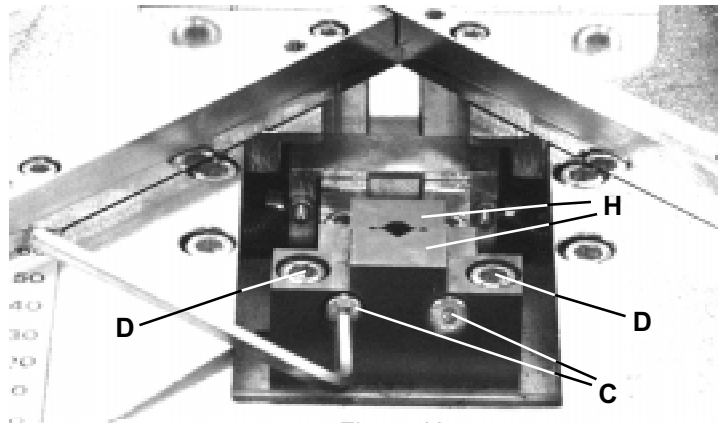

Figure 13
2. If glue accumulates on the table surface or **Hammer Block (H)**, Figure 13, wipe it off before it dries, otherwise, it will have to be scraped off or removed with the solvent recommended by the glue manufacturer. Be sure glue does not dry on the **Upper Clamp Pads** because it will damage the top of a frame.
- c. Remove two screws (**C**). **DO NOT LOOSEN SCREWS (D)**. (Figure 13)
Caution: Be sure the tops of the two halves of the **Hammer Block (H)** in Figure 13, are perfectly flush before tightening screws (**C**).